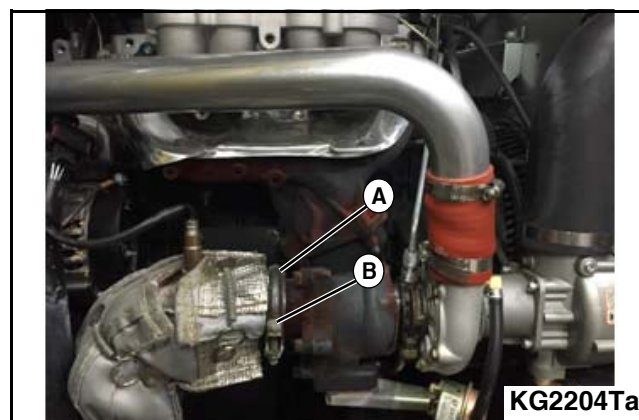

Figure 3-50
2. Connect the exhaust pipe to the turbocharger outlet and install the v-band clamp (A). Install the clamp bolt (B) and tighten to $20 \text{ N}\cdot\text{m}$ ($14.8 \pm 2 \text{ ft}\cdot\text{lb.}$). **See Figure 3-50.**